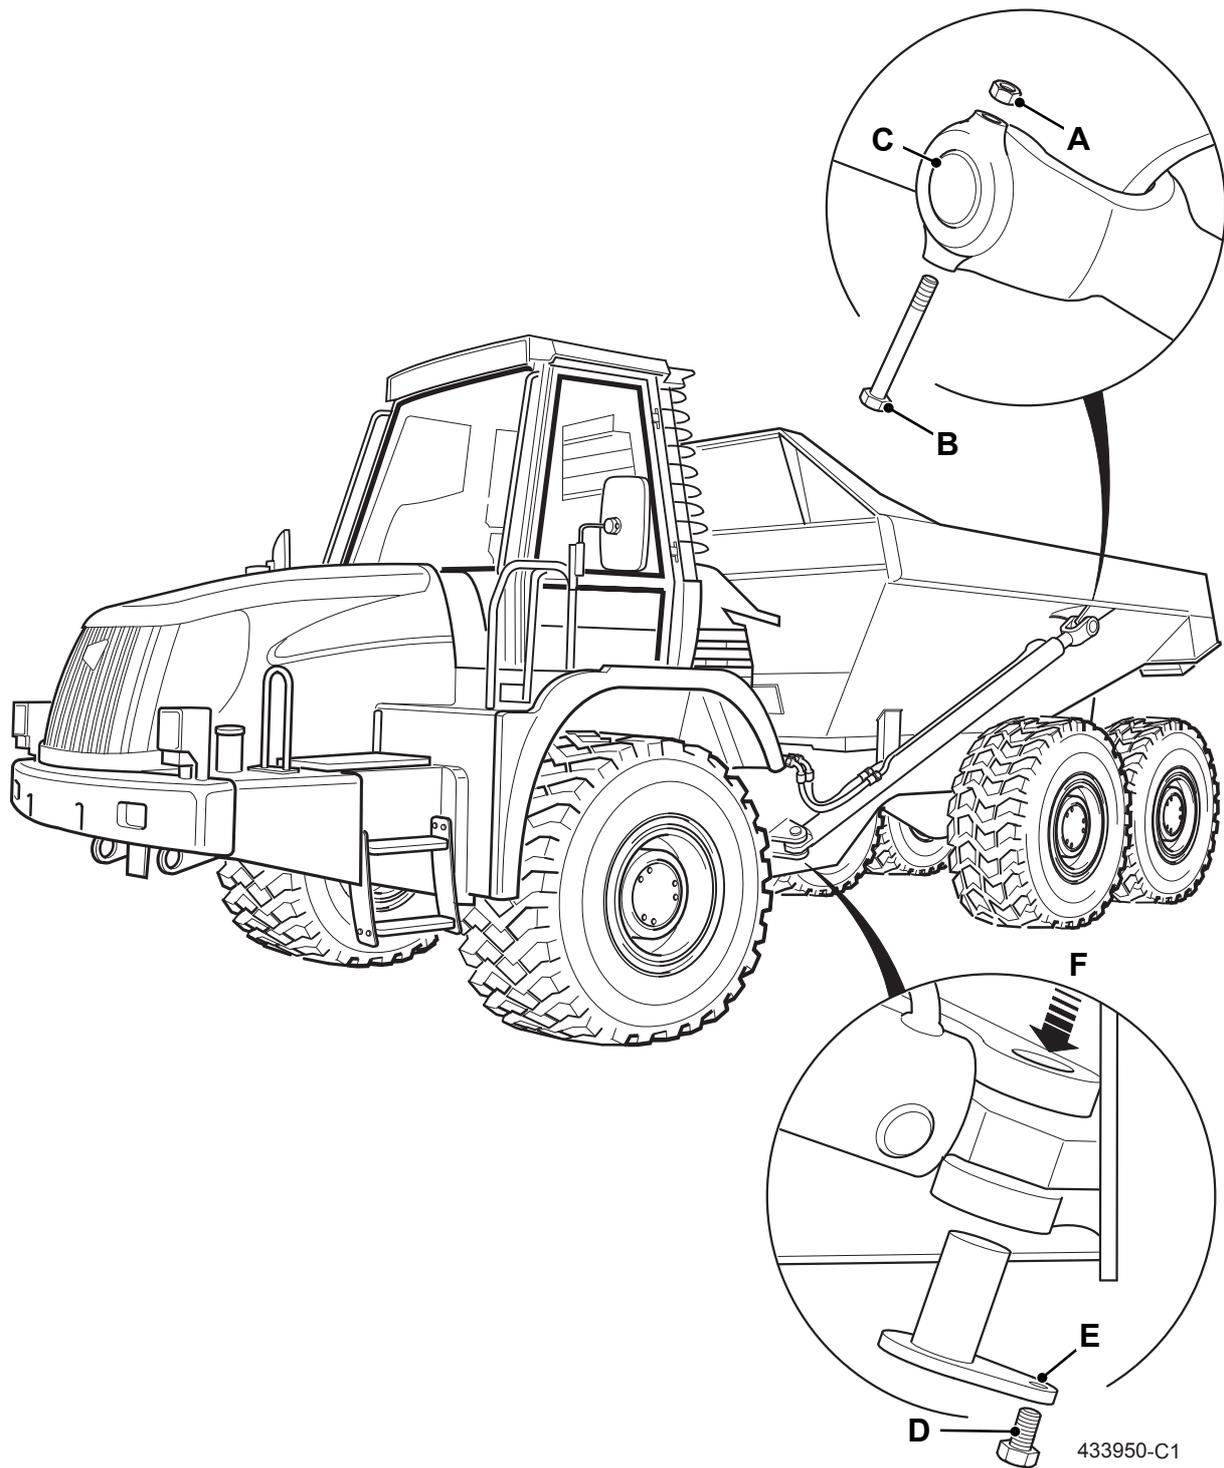

Fig 24. Lift Rams
- 2 → Fig 24. (E-58). Support the ram to be removed. Working at the rod end of the body ram, remove the nut **A** and locking bolt **B** and drive out the pivot pin **C**.